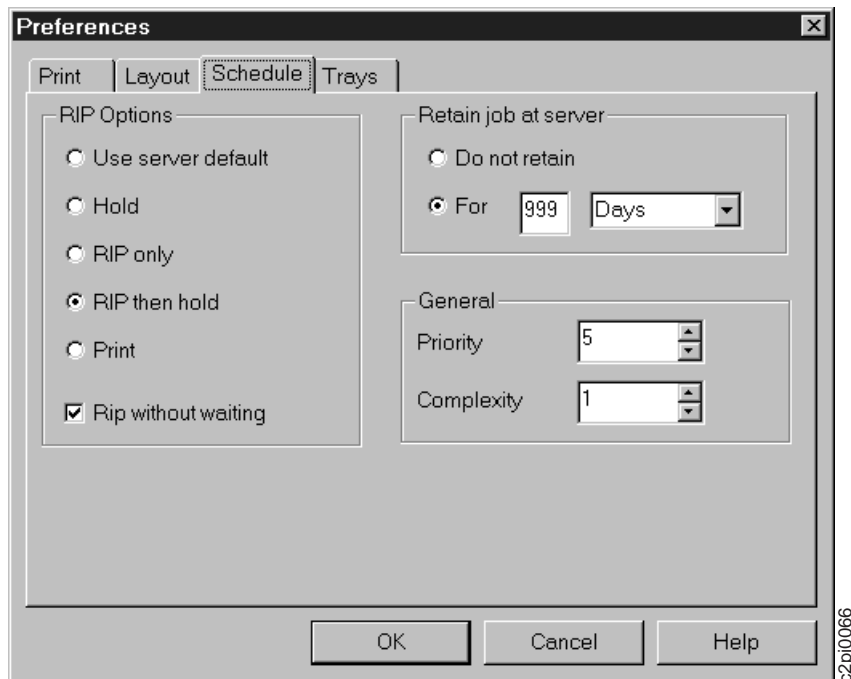

Figure 32. Preferences - Schedule Tab
- To set schedule options, select the "Schedule tab". You see the Preferences - Schedule tab (Figure 32). Select the radio button that applies to your application. For example, if you are submitting Post Script (PS) files or requesting paper from an insert tray, select the "RIP and hold" radio button.